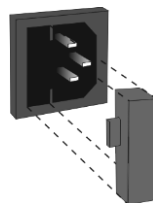

Figure 3. Fuse holder
8.3 **Fuse replacement.** Disconnect the power cable from the mains. Disconnect the power cable from the socket on the rear of the unit. Open the fuse holder, located near the socket (fig. 3). Check and replace with a correct fuse, if necessary, see table below: